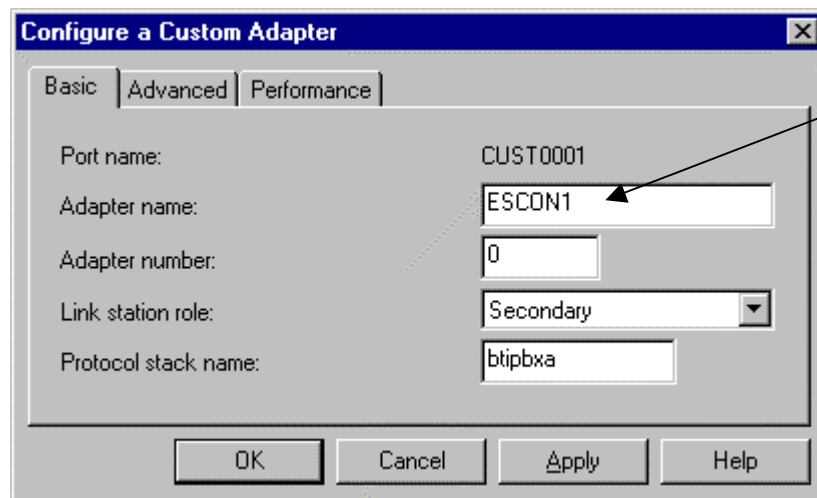

Figure 15-26. Adapter Properties
2. Double click the custom adapter (or click View/Change/Add). The adapter’s properties screen will display (Figure 15-26). Make note of the Adapter name.